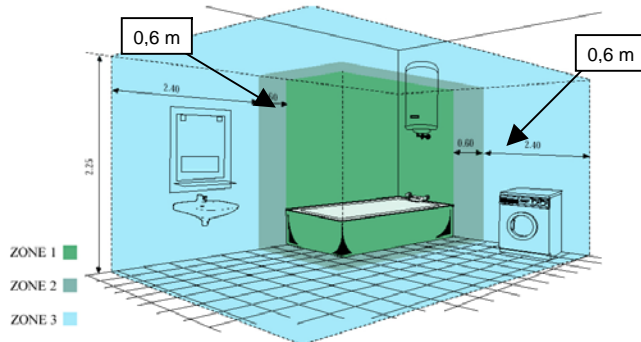

Figure 1: Classification of the Bathroom Zones
- The electronic thermostat is a class I or II apparatus and it is protected from water contact. In the bathroom it may be mounted in the zone 3 (see figure 1):making it impossible to be touched by person using the bath or shower.